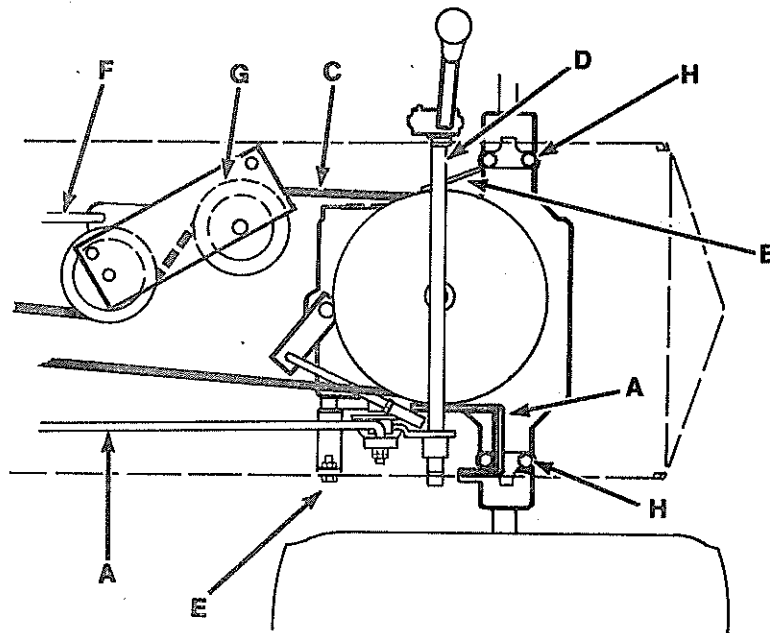

Figure 5-10
2. Raise the rear of the tractor frame and roll the transaxle assembly into the frame of the tractor. Make sure brake rod (A) is above the support bracket. Figure 5-10.
3. Secure axles to frame using the 3 mounting bolts, 6 flat washers, and 3 lock nuts removed in disassembly at the rear holes. (H).
4. Attach support bracket to L. H. side frame using the 5/16-18 x 7/8 flange bolt (E) and nut removed in disassembly.
5. Connect shift rod (D) to transaxle lever. Figure 5-10.
6. Position drive belt (C) over drive sheave.
7. Place belt guide (B) in position, in side of frame and secure using the remaining long axle bolt, 2 flat washers and lock nut. Secure the belt guide 1/16" away from belt.
8. Re-tighten belt guide (B) to frame.
1. With brake lock engaged, adjust clutch rod (F), Figure 5-10, to provide a clearance of 3-1/2" to 3 3/4" between idler (G) and inside of side frame.
2. With brake disengaged, adjust brake rod (A) so that arm on transmission is vertical. Brake spring (J) should be compressed to approximately 5" (127 mm) long.
3. With shift lever in the neutral detent, adjust shift rod (D) until the transmission reached the neutral position.